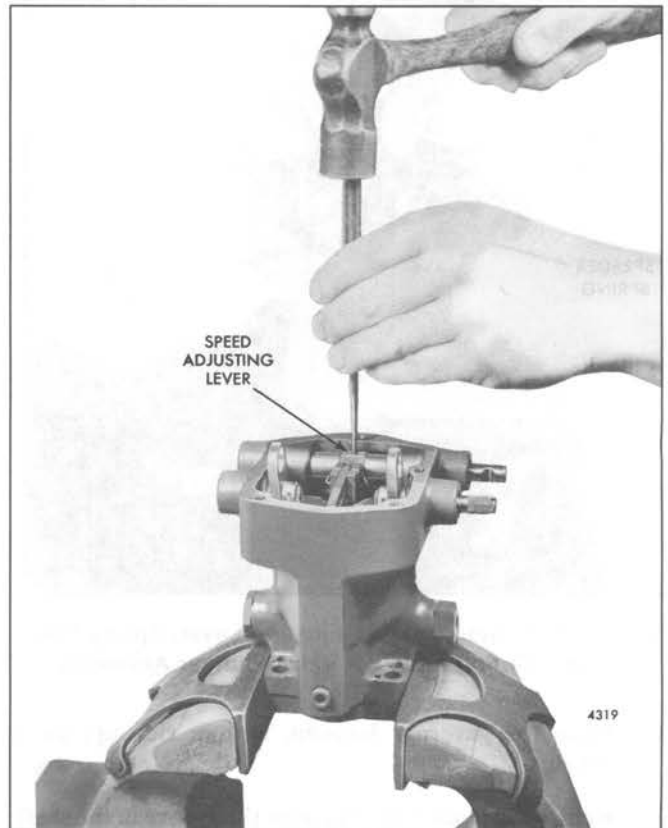

Fig. 9 - Removing Speed Adjusting Lever Roll Pin
1. Clamp the governor housing and base assembly in a bench vise equipped with soft jaws (Fig. 9).
10. Remove the speed adjusting lever roll (spring) pin from the speed adjusting lever and the lever shaft with a small punch and hammer as shown in Fig. 9.